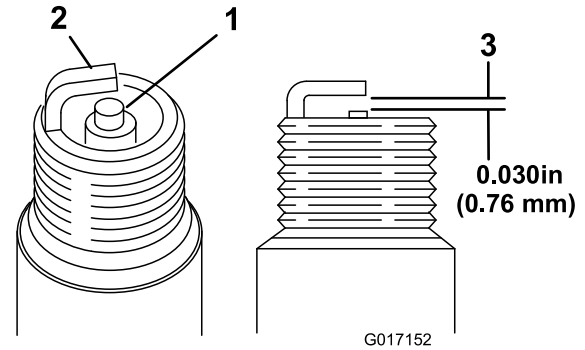

Figure 23
1. Look at the center of the spark plug (Figure 23). If you see light brown or gray on the insulator, the engine is operating properly. A black coating on the insulator usually means that the air cleaner is dirty.
2. Check the gap between the center and side electrodes (Figure 23). Bend the side electrode (Figure 23) if the gap is not correct.